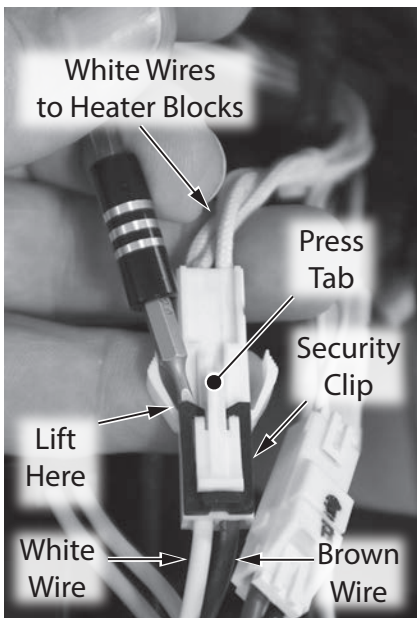

Figure 50 - Wiring security clip removal
- 13 To disconnect wiring harnesses B1 - B3, gently remove the security clip with a mini pick or fingernail. Push tab as shown in Figure 50. Separate the harnesses. Place security clip aside in a safe place for reinstallation.